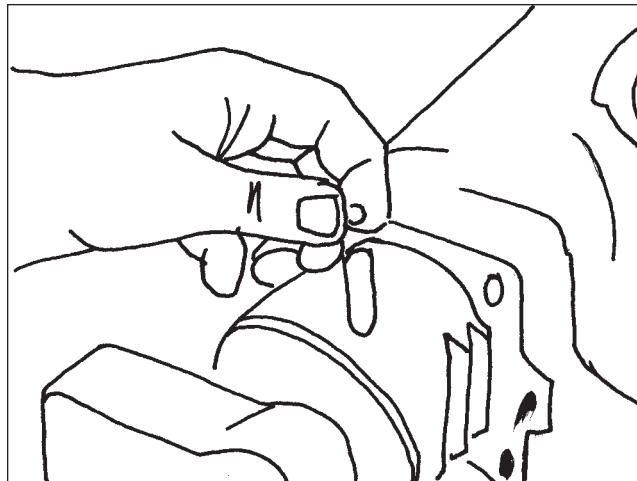

Figure 126
7. While supporting the bearing cap assembly with your hand, load the 24 steel balls in the ball guide. Slowly turn the bearing cap assembly inward while feeding the steel balls until all the steel balls are used (Figure 126).